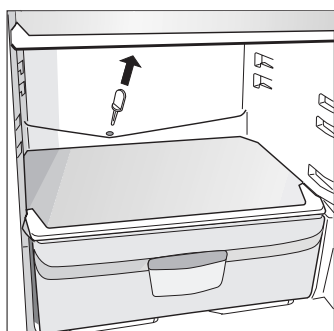

Fig. 3
This appliance defrosts automatically and the water is channeled to the back toward the drain installed for this purpose (fig. 3). Here, the heat produced by the compressor will make it evaporate. The only thing you must do is to periodically check and clean the hole of the drain, which is located behind the vegetable crispers, so that the water drains properly.
- The hole for draining the water from the frost is clogged (see fig. 3).